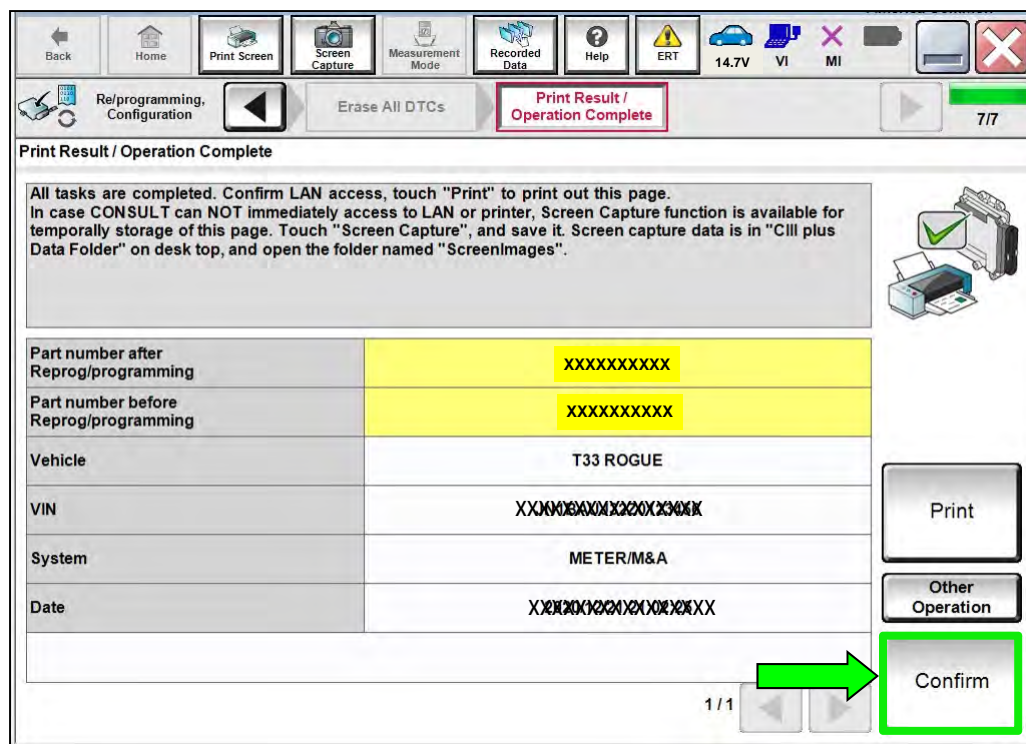

Figure 24
29. Follow the on-screen instructions to print the screen (Figure 24) and attach it to the repair order.